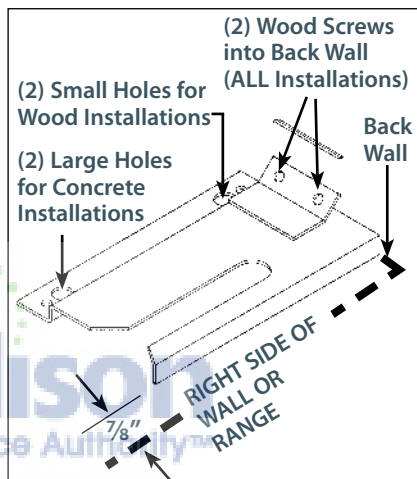

Fig. 09
Place the bracket against the back wall, into the right rear corner where the range is to be located. Leave a gap between the wall (or side of range) and the bracket (see Fig. 09). Drill (2)  $\frac{7}{8}$ " diameter pilot holes in the center of the small holes. A nail or awl may be used if a drill is not available. Fasten the bracket securely to the floor and wall.